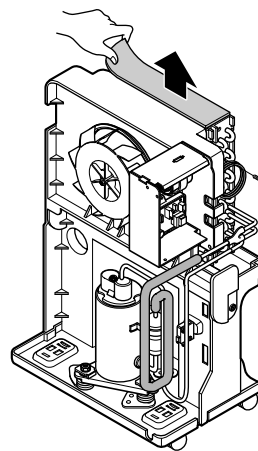

Figure 24
3. After discharging the refrigerant completely, remove 2 screws between the housing assembly and the H/E. (See Figure 24)